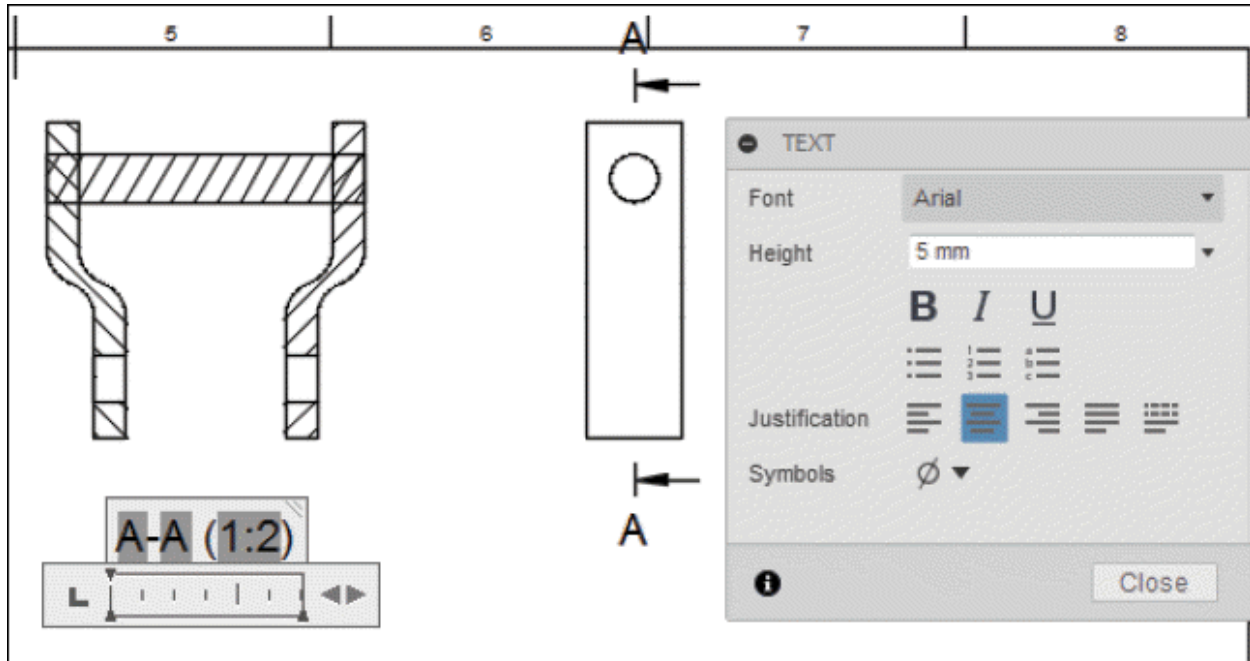

Figure-17. TEXT dialog box for annotation
- If you want to edit the section annotation then double-click on it. The **TEXT** dialog box will be displayed; refer to Figure-17.